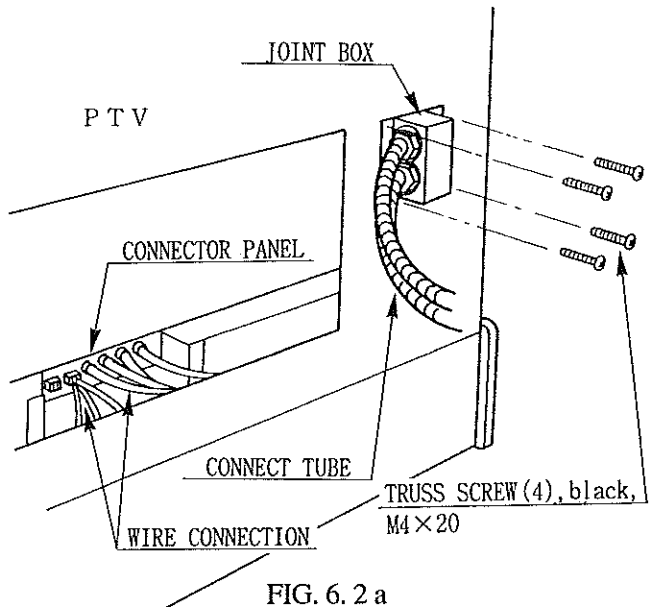

FIG. 6. 2 a
- ① Remove the PTV's SERVICE DOOR and FRONT CABINET DX BACK LID.
- ② Put the CONNECT TUBE's wiring connectors in the square hole beside the SERVICE DOOR and secure the JOINT BOX with 4 truss screws by paying careful attention that the connectors are not damaged.
- ③ Connect the CONNECT TUBE's wiring connectors to the connector panel inside the PTV. At this time, make sure that the wire color (red, green, blue and the remaining color) corresponds with the applicable symbol of the connector panel's display (R. G. B. and SYNC terminals). (FIG. 6. 2 a)